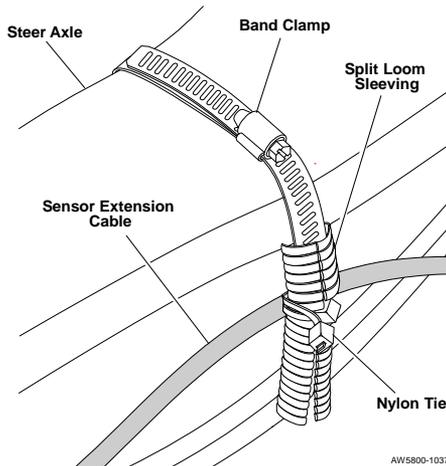

**Fig. 22: Attaching Band Clamps to Cover**
5. Very loosely install band clamps around the steer axle on both ends of the deflection sensor cover. Ensure that the band clamp on each side circles both the steer axle and the cover flange (Fig. 22). Fig. 23 shows completed installation.